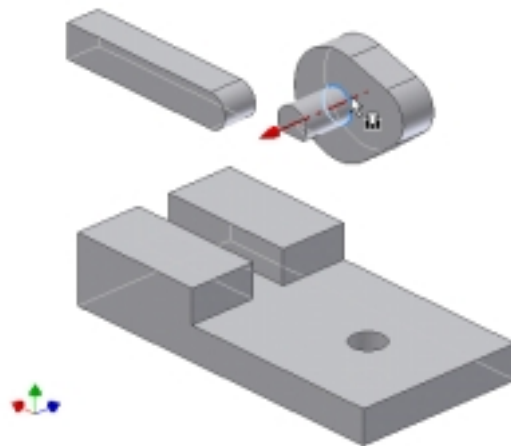

Figure 3-17
3. Hold down the Alt key and select the circular edge of the cam indicated in Figure 3-17. (Note the insert constraint symbol.)